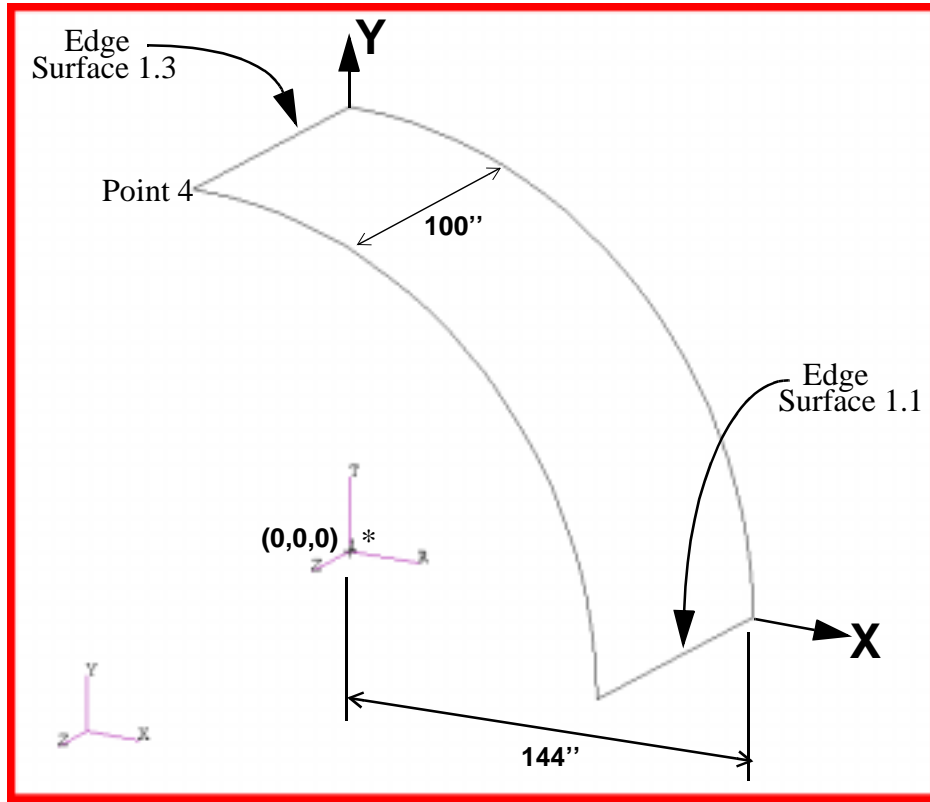

FIGURE 1.
3. Create the geometry of the curved plate shown in Figure 1.